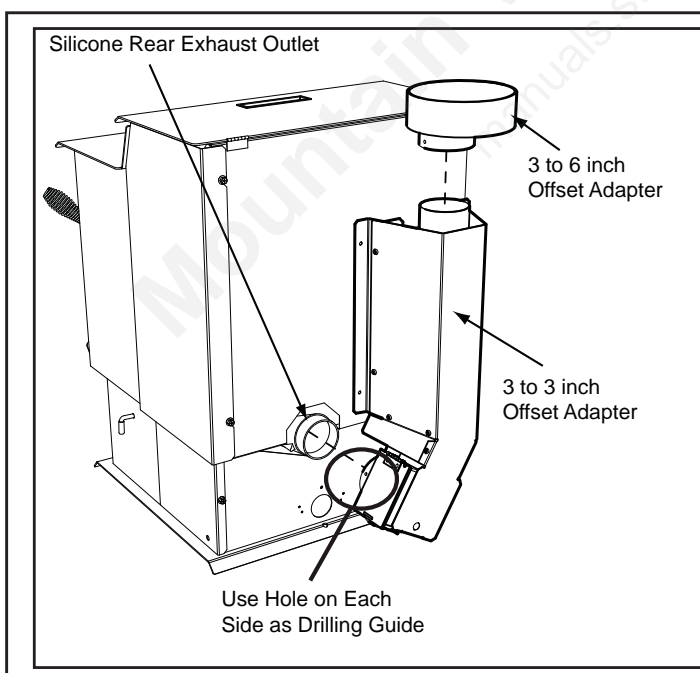

Figure 39.1
1. Put a layer of high temperature silicone on the 3 inch (76mm) exhaust outlet. **Do not put silicone inside of pipe.** **Figure 39.1**
2. Slide the top vent adapter onto the rear exhaust outlet and adjust the assembly to a vertical position. **Figure 39.1.**
5. Drill 2 holes with #26 drill bit through the rear exhaust outlet using the 2 holes already in the short horizontal pipe in the top vent adapter as a guide. Install the 2 screws. **Figure 39.1.**
1. Put a layer of high temperature silicone on the 3 inch (76mm) exhaust outlet. **Do not put silicone inside of pipe.** **Figure 39.1.**